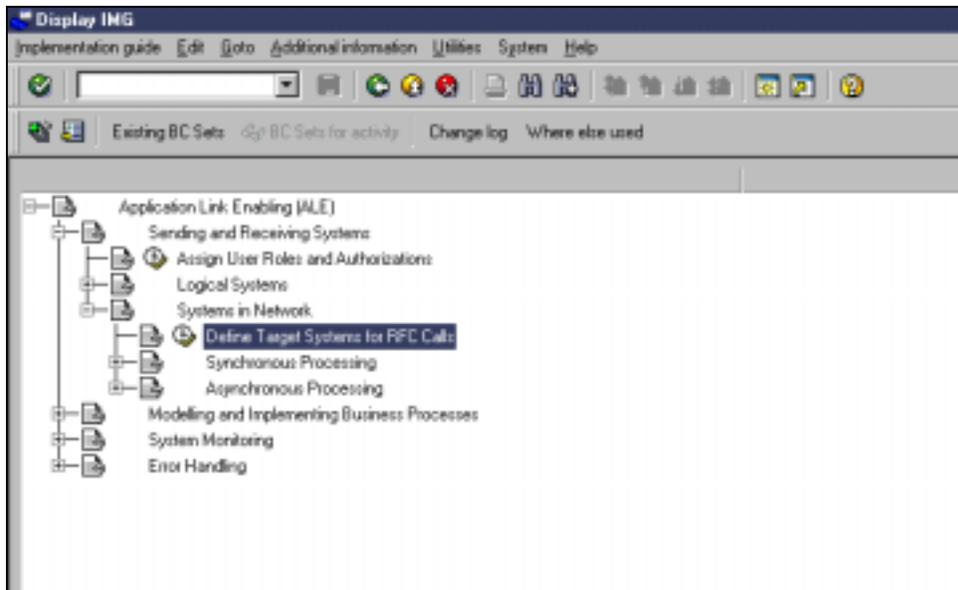

Figure 51: Defining RFC definitions: tree structure
1. Click **Define the Target Systems for RFC Calls**, as shown in Figure 51.